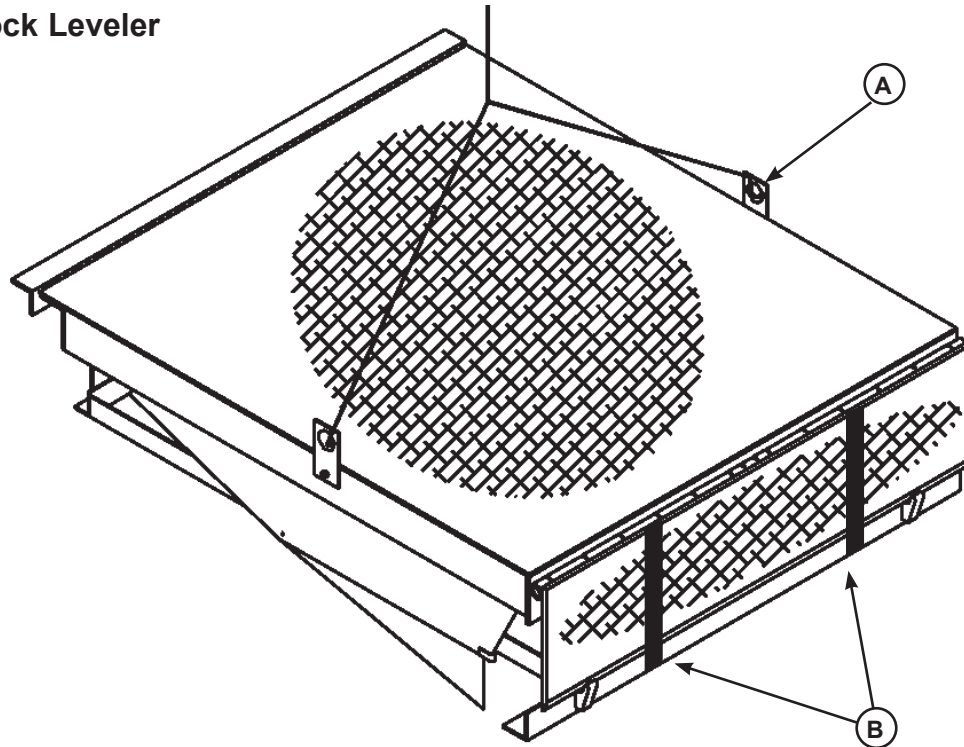

Figure 6
DLM dock levelers are shipped with lifting brackets (A) fastened to the platform side joists, and shipping bands (B) around the platform lip and leveler frame (see Figure 6).
3. Attach lifting chains to lifting brackets (A) and to a lifting device (i.e., hoist or fork truck) having the appropriate lifting capacity and reach.